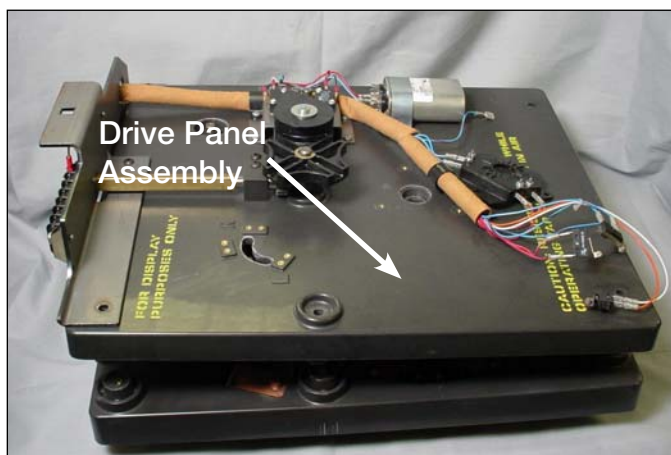

Figure 32.
2. Place and align the tap changer drive assembly section on top of the contact panel assembly. See Figure 32.